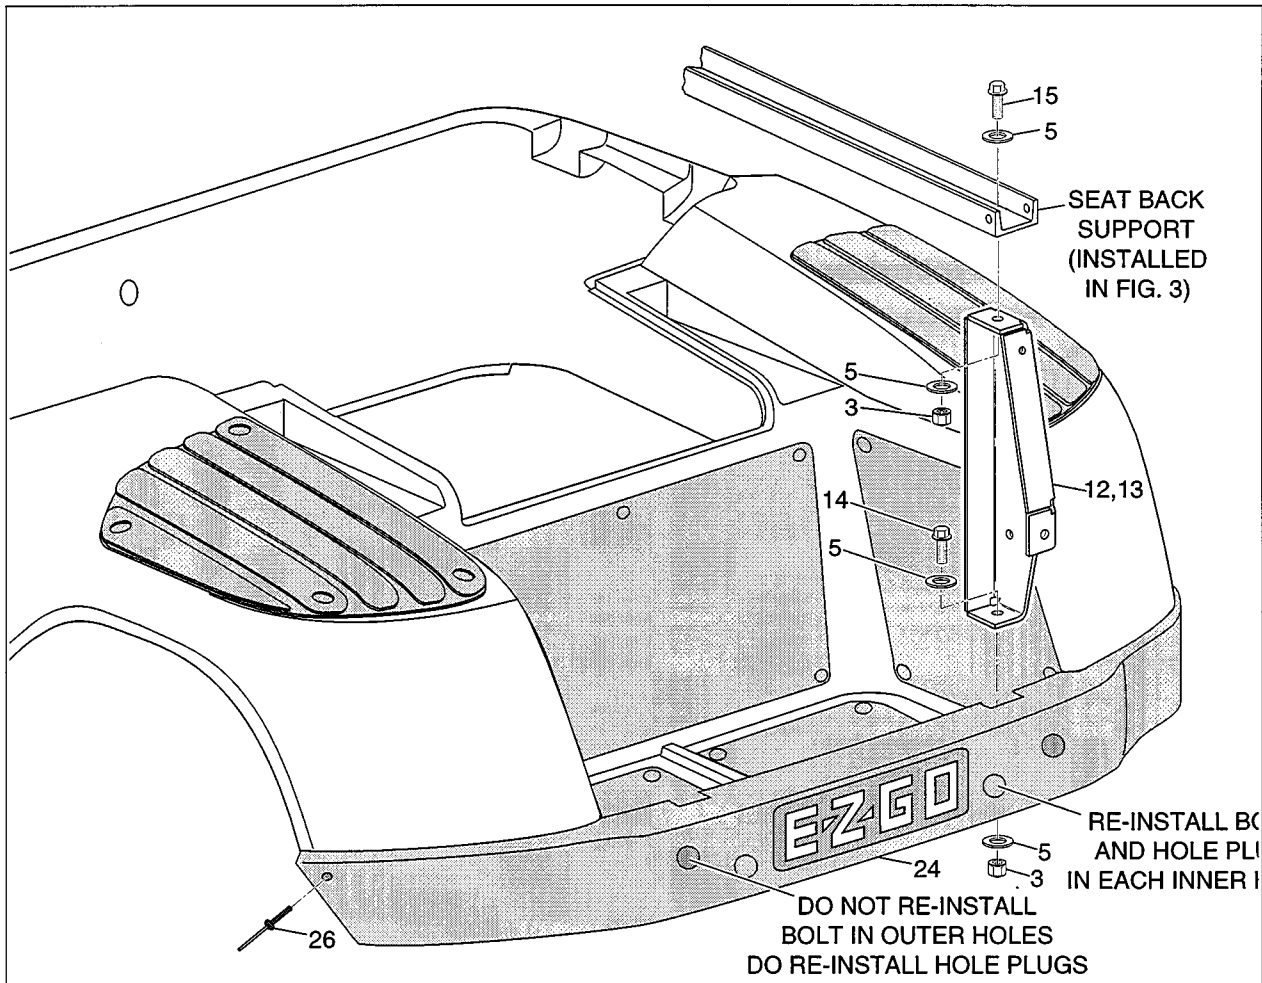

Fig. 4
2. Remove hole plugs (4 places) in rear bumper (item 24) and remove bolts securing bumper to vehicle.
3. Remove bumper and replace with modified bumper contained in kit, using hardware removed above to re-attach bumper to vehicle. Replace bolts using inner 2 mounting holes only. (See Fig. 4) Tighten to 21 - 25 ft. lbs. torque.
4. Fasten each end of bumper to rear fender using 3/16" rivet (item 26). (Hole in fender may need to be enlarged to 13/64")
1. Place vertical frame support (items 12 and 13) between the seat back support and bagwell as shown. Insert bolt (item 14) and washer (item 5) from inside bagwell and place washer (item 5) and nut (item 3) underneath frame (See Fig. 4). Finger tighten the hardware since the bottom washer and nut will be removed later for further installation.
2. Secure the top of the vertical frame support to the seat back support using bolt (item 15), washers (item 5) and nut (item 3) (See Fig. 4). Do not tighten hardware to allow for adjustment.